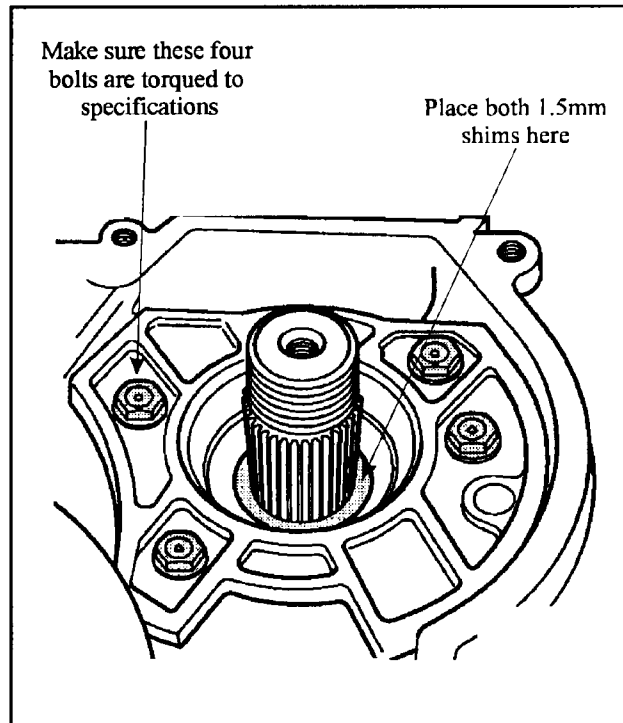

Figure 115
11. Spline the parking gear onto the pinion shaft, and install the selective shim. (For adjustment information see Figure 115 and 116 Page 52).
1. Place two 1.5mm (0.060") thick shims onto the pinion shaft as shown in Figure 115.